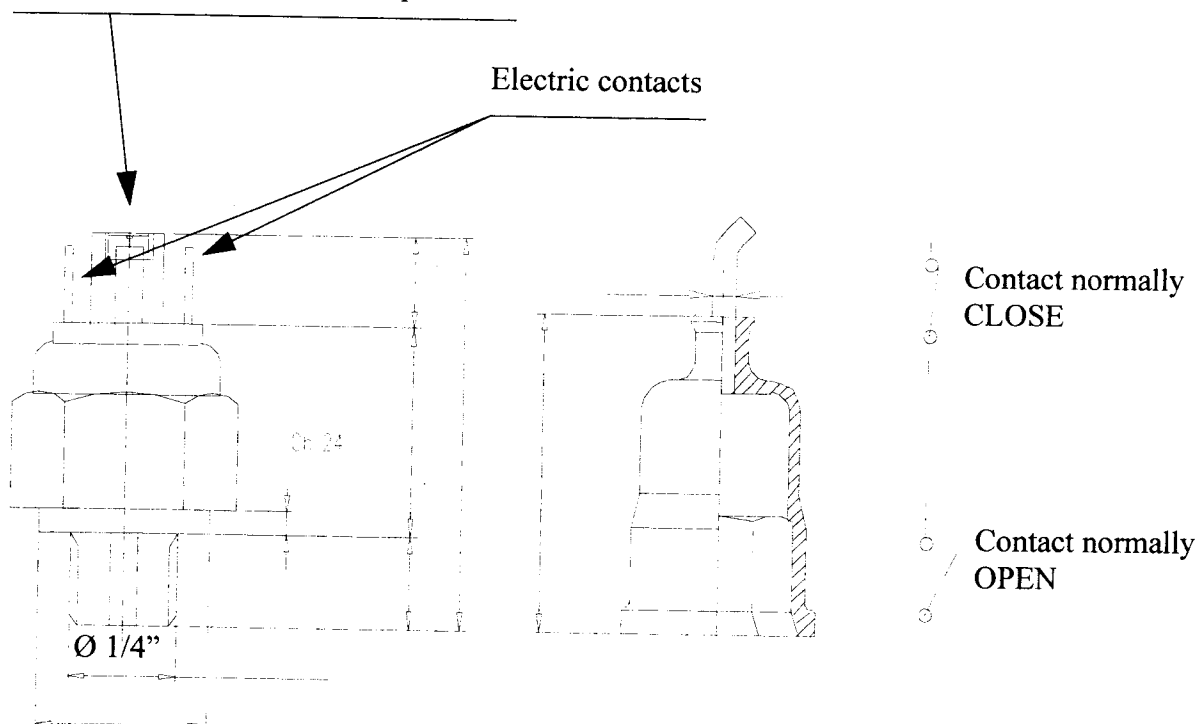

Figure 1: Pressure switch and protection cap.
- Connect the two female contacts of the wire with the male contacts on the pressure switch body (see Fig. 1).
The pressure switches regulation is made turning the screw on the top of the p.s. body (see Fig. 1). Screwing the screw inside the body an **higher** switching pressure is obtained, unscrewing it a **lower** switching pressure is obtained.